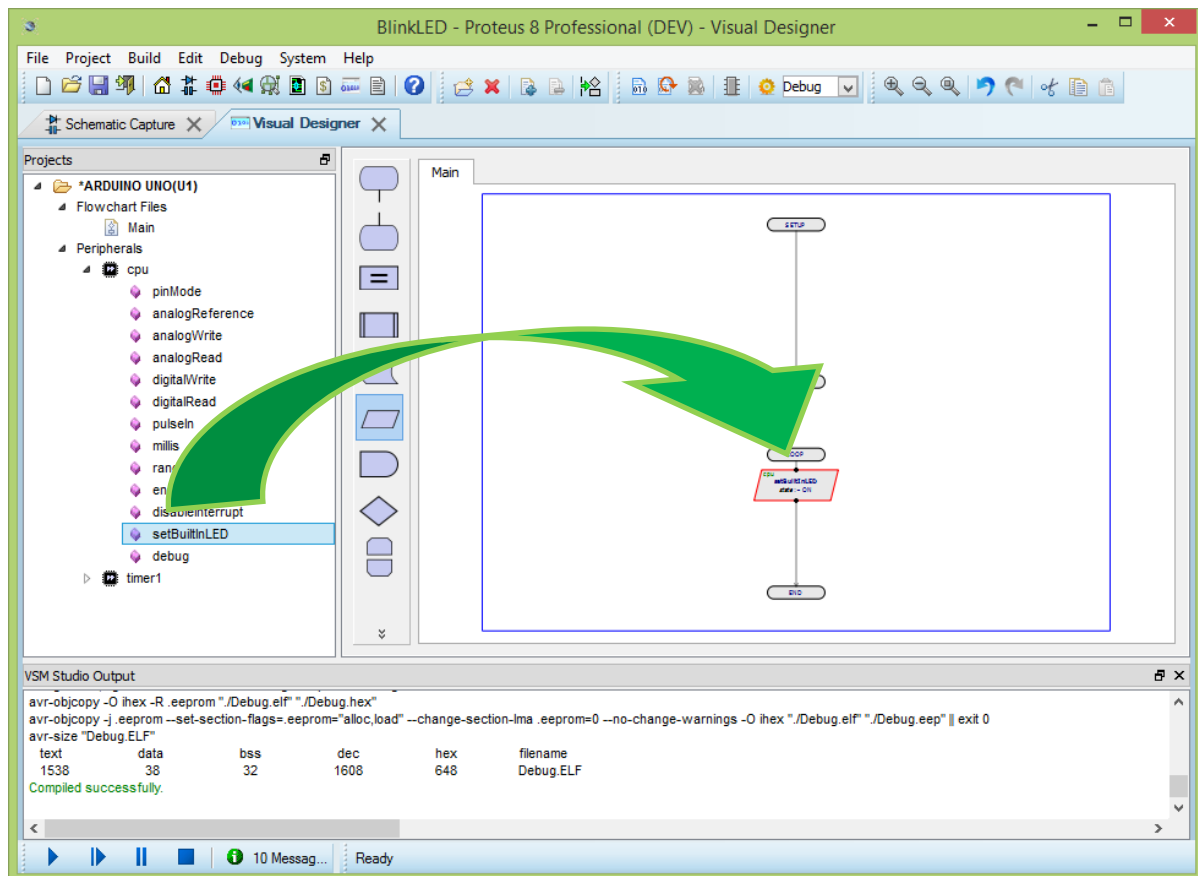

Figure 2-12: Adding the "setBuiltInLED" method to the flowchart
Step 1: Drag a “setBuiltInLED” method from the CPU peripheral into the flowchart **Loop** routine (Figure 2-12). The method is named “setBuiltInLED” because it can be used to turn a built-in LED on the Arduino Uno board on or off (this is discussed in section 2.7.1 – feel free to read that section and then come back if you are curious).